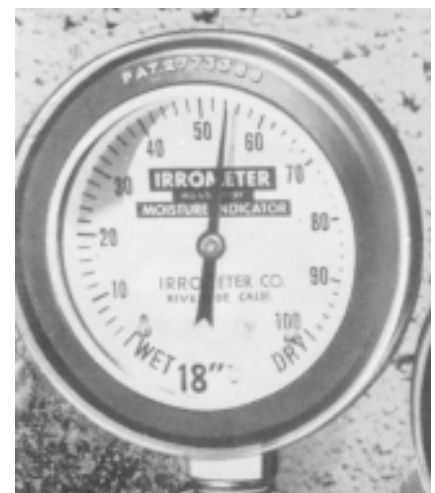

Figure 2. Vacuum dial gauge.
**Vacuum gauges.** The vacuum gauge (Figure 2) is calibrated in centibar or hundredths of one "bar." A bar is the unit of pressure, either positive